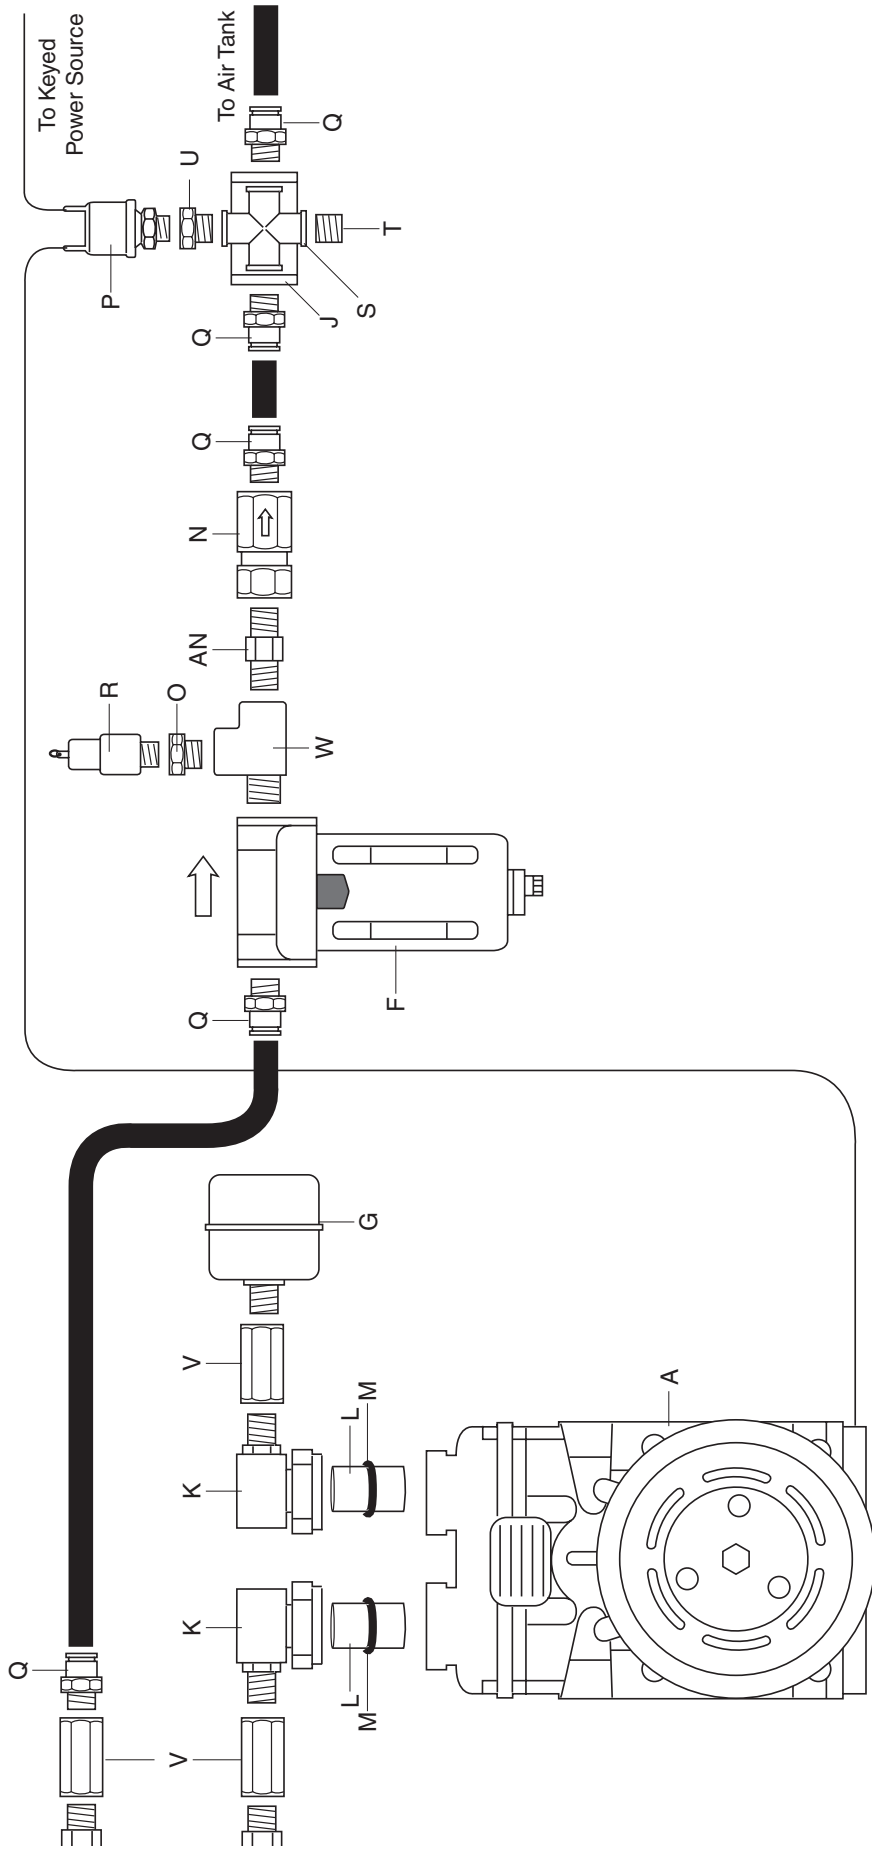
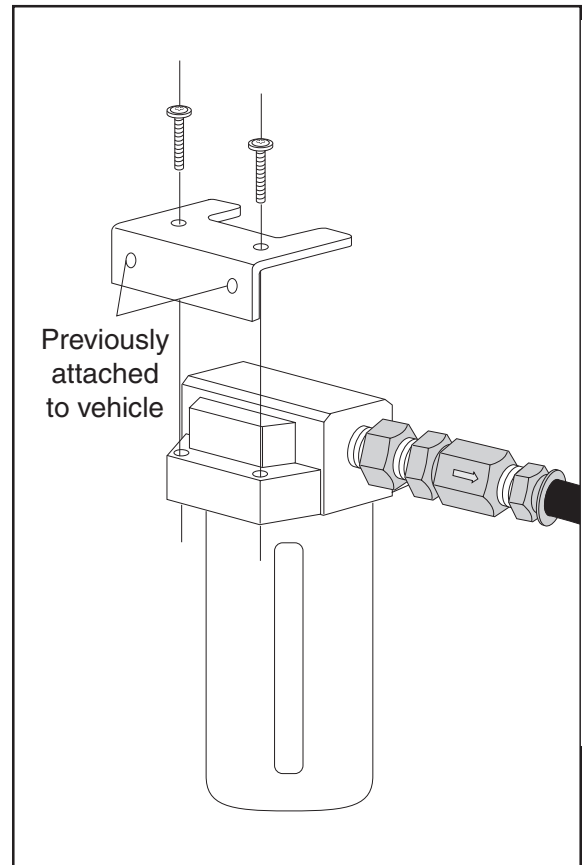

Figure 1
Figure 2
1. Using the provided thread sealant, assemble the bushing (R) and relief valve (O) to the brass street tee (W). Install a 1/2" NPTM x 1/2" tube straight fitting (Q) to the tee (Figure 1).
2. With the arrow pointing in the direction of the flow, assemble the coalescing filter (F) to the brass tee assembly using the supplied sealant (Figure 1). Tighten securely.
3. Securely attach a 1/2" NPTM x 1/2" tube straight nipple (AN) to the port on the coalescing filter (Figure 1).
4. Loosely attach the filter bracket (I) to the filter using the provided screws (Z).
6. Remove the filter from the bracket and install the bracket using the self tapping bolts (Y). Tighten securely (Figure 2).
7. Reattach the filter to the bracket and tighten screws securely (Figure 2).
1. Install the brass cross bracket (S). Using the bracket (J) as a template, mark and drill the two 1/4" mounting holes and attach using two bolts (X) and two nuts (AA).
2. Attach the bushing (U) and pressure switch (P) to one leg of the brass cross (S) and plug (T) to the other leg directly across from the pressure switch (Figure 1).
3. Attach the brass cross to the bracket using a 1/2" NPTM x 1/2" tube straight fitting (Q) on each side (Figure 1).
4. Install a 1/2" NPTM x 1/2" tube straight fitting (Q) to one end of the check valve (N) (Figure 1). Tighten securely. The check valve will be installed to the filter assembly. NOTE: The arrow points in the direction of the flow and the fitting goes onto the discharge end of the check valve.
5. Use the provided hose cutter (AL) to cut a length of 1/2" hose long enough to run from the cross assembly to the air fitting on the filter assembly. Do not attach at this time.
6. Being sure that the arrow on the check valve points in the direction of the flow, attach one end of the hose into the push-to-connect fitting on the check valve. Route the other end to the fitting on the cross assembly (Figure 1).
7. The open leg on the cross routes into a 1/2" hose going to the existing air tank (Figure 1).
8. Using the thread sealant provided, assemble two of the brass couplings (V) to both ends of the steel leader hose (H). Tighten securely (Figures 1 and 4).
10. Slide the O-rings (M) around the two sleeve inserts (L). Set the inserts into the port holes on top of the compressor.
11. Set the compressor fittings (K) over the inserts and loosely attach using the supplied replacement bolts (C).
12. Attach a coupling (V) and filter (G) to the supply side (the suction port) using the provided sealant. Position the filter and tighten the compressor fitting bolt securely.
13. Firmly attach the steel leader hose to the remaining compressor fitting using the provided sealant (Figure 1).
14. Attach a 1/2" NPTM x 1/2" tube (Q) fitting to the opposite end of the leader hose.
16. Attach a length of hose (AK) from one end of the leader hose to the fitting on the relief valve assembly on the filter (Figure 1).